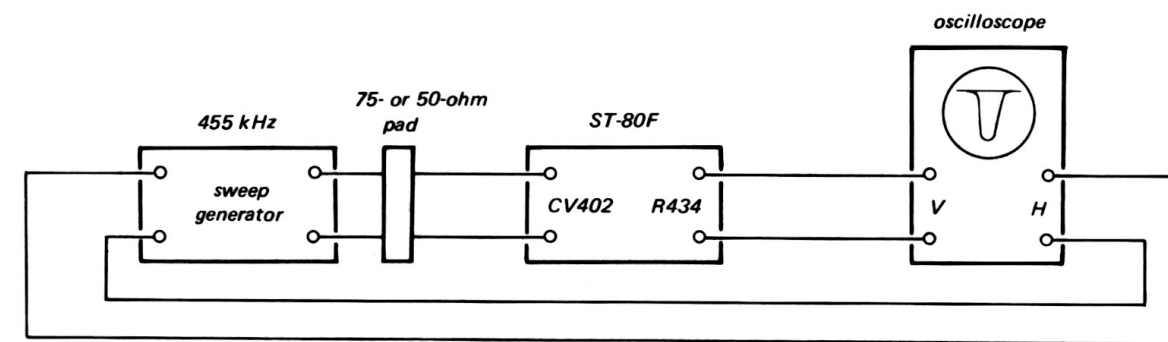

Fig. 5-15. A-m i-f alignment by sweep generator test setup
- With the equipment connected as shown in Fig. 5-15, adjust the oscilloscope controls and generator output to provide a visible indication.